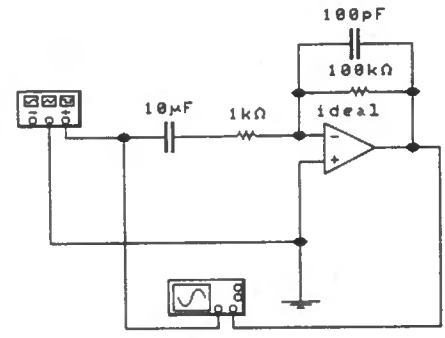

Fig. 5.24 Circuit for Assignment 5.2.
1. Connect the circuit shown in Fig. 5.24 with  $C_1 = 10\mu F$ ,  $R_1 = 1k\Omega$ ,  $C_2 = 100pF$ , and  $R_2 = 100k\Omega$ .